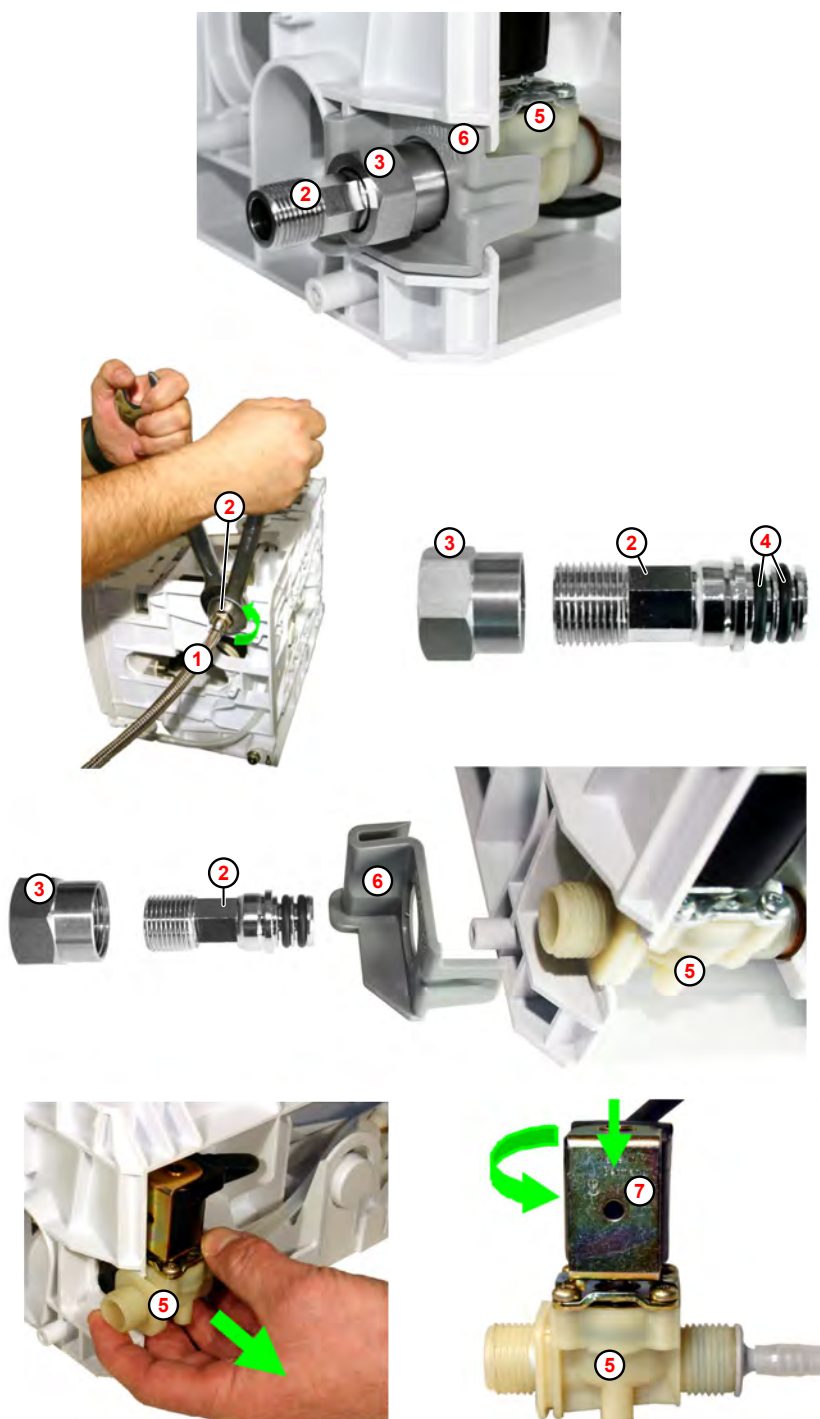

Fig. 18: Solenoid valve disassembly
1. ➤ Unscrew the inlet hose ( Fig. 18 , ① ).
2. ➤ Screw on the union nut ③ and carefully pull the connection adapter ② out of the valve body ⑤ .
4. ➤ Push the electrical (magnetic) coil (bayonet clutch) ⑦ against the valve body while turning it anticlockwise (to the left - approximately 30°) until the electrical (magnetic) coil is released from the lock.